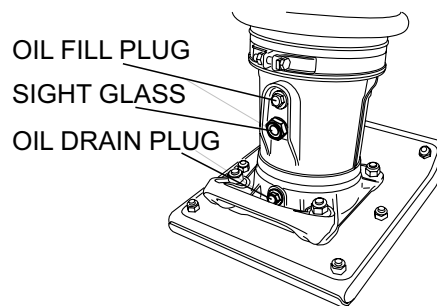

Figure 18. Oil Drain Plug
- Remove the oil drain plug on foot housing (Figure 18) and drain the oil. Refill with approximately 0.37 qt. (0.35 liter) of 10W-30 SE, SF or higher grade motor oil. Oil should be midway in sight glass. Break in oil should be changed after first 50 hours.